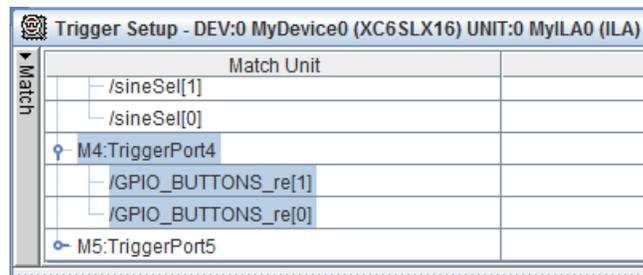

Figure 14: Sample View of Display Setting and State Machine Glitch
4. You can tell that the correct match unit is enabled if it is highlighted in blue, as shown in Figure 14.